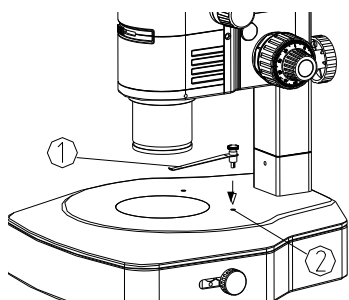

Fig. 10
- 2) Insert the clip ① into the two holes of the base, as the arrowhead direction shown in the figure. (See Fig. 10)